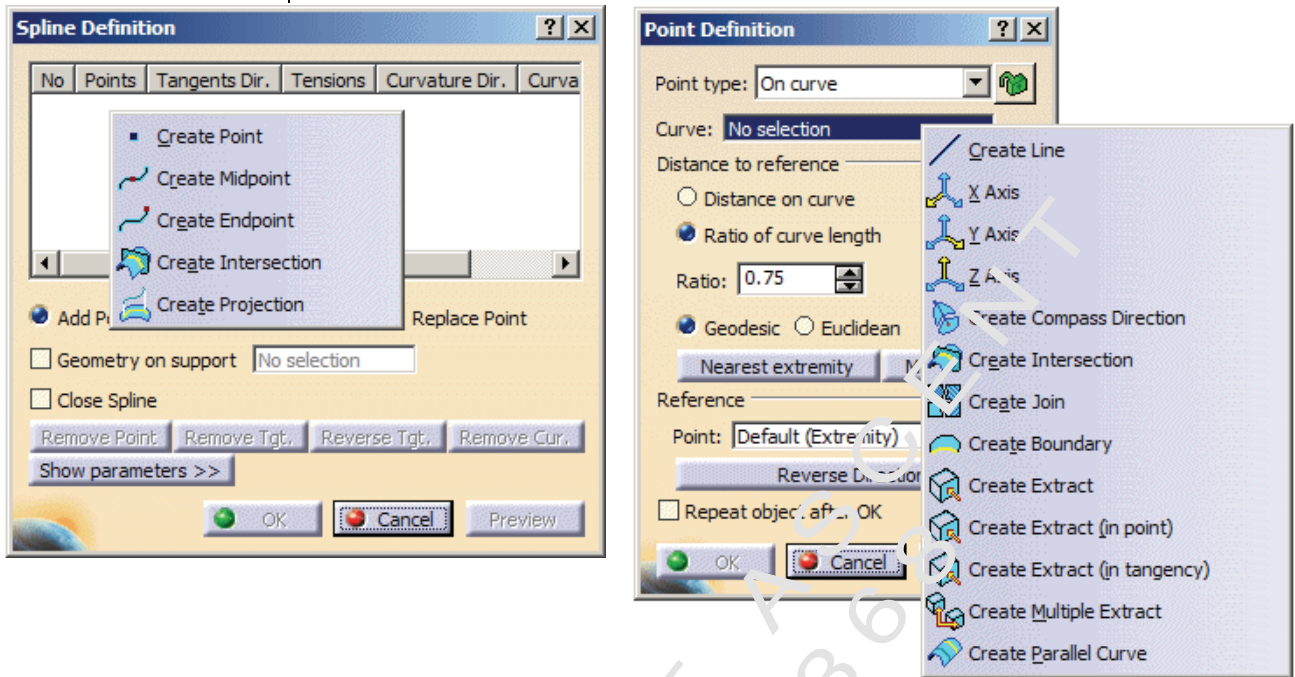

Figure 1–12
- Use contextual menus to easily create proper reference geometry as shown in Figure 1–12.